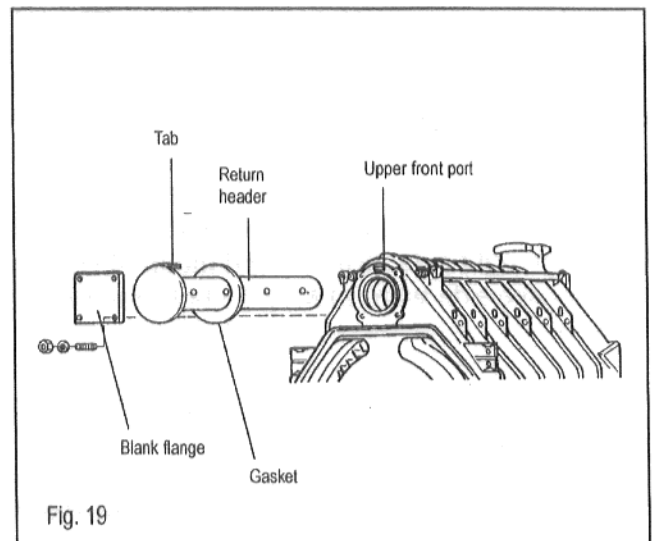

Fig. 19
- Place gasket over return header pipe (Fig. 19).
- Insert the return header pipe into upper port from the front of the boiler (Fig. 19).